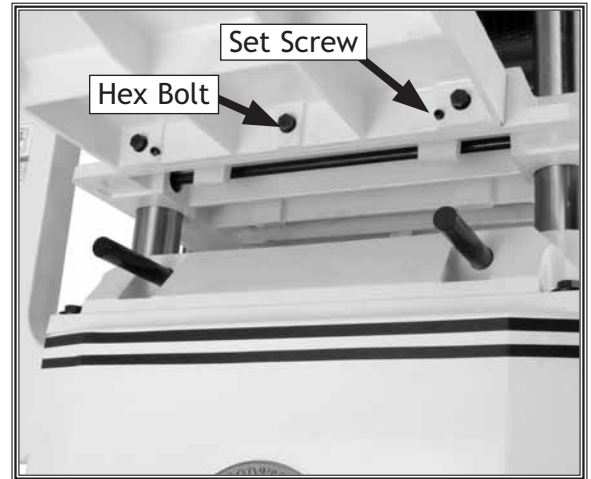

Figure 5. Extension wing installed.
3. Install two M8-1.25 x 20 set screws into each wing. Refer to **Figure 5** for location.